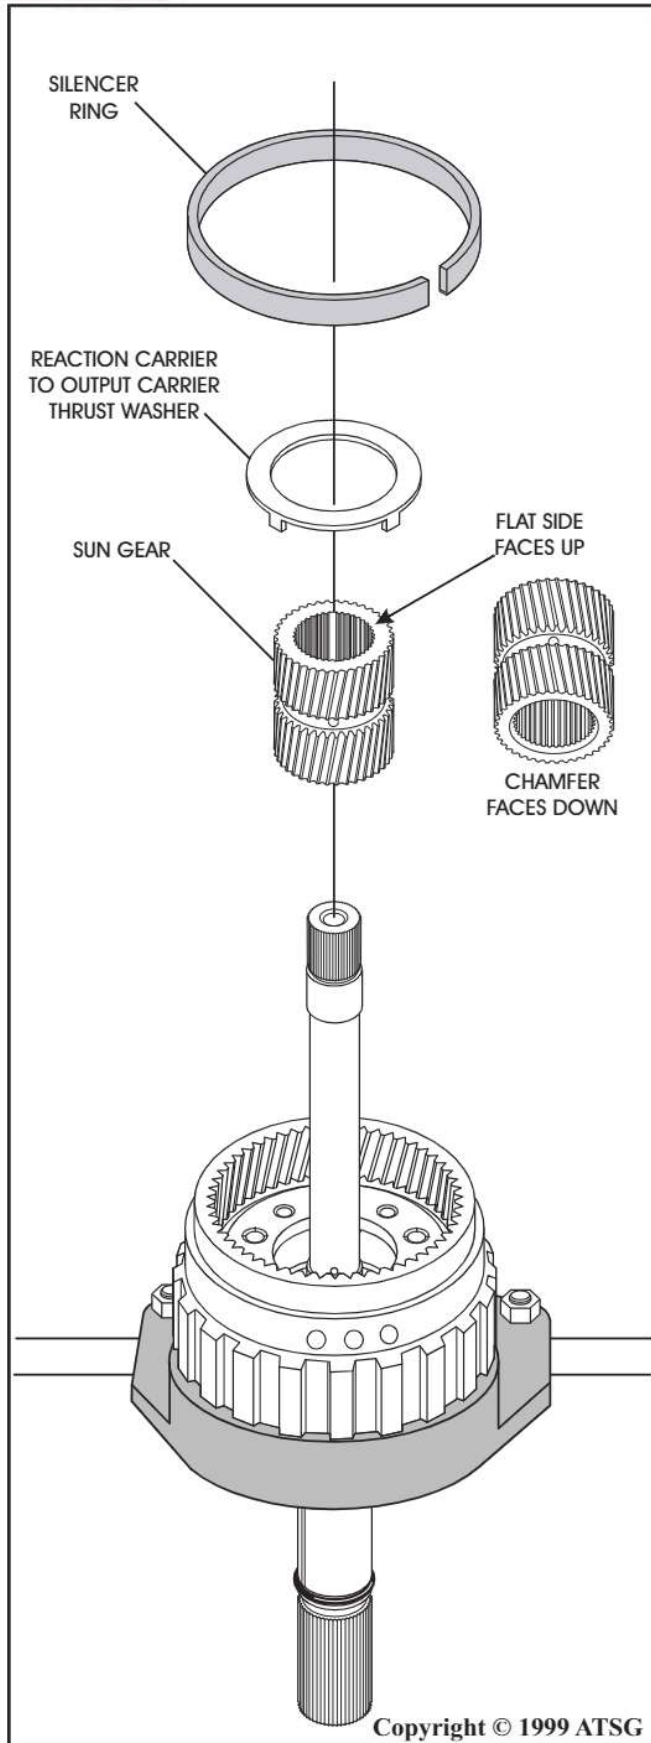

Figure 64
22. Install the sun gear over the main shaft and into the output carrier by rotating into position, with inside chamfer **down** as shown in Figure 64.
23. Install the reaction carrier to output carrier thrust washer, ensuring that the tabs engage in the holes in output carrier, and retain with a small amount of TransJel[®] (See Figure 64).
24. Install the silencing ring over the top side of the output carrier. Refer to Figures 64 and 65.